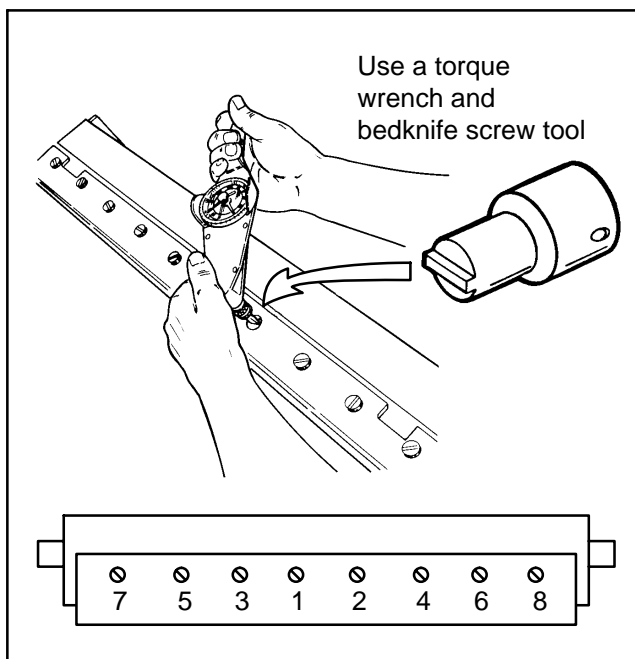

Figure 28
2. Remove bedknife screws and remove bedknife (Fig. 28).
- C. Tighten screws to a torque of 250 - 300 in.lb. (288 - 345 KgCm). Use a torquing pattern working from the center toward each end of the bedknife (Fig. 28). **DO NOT** use an impact wrench.